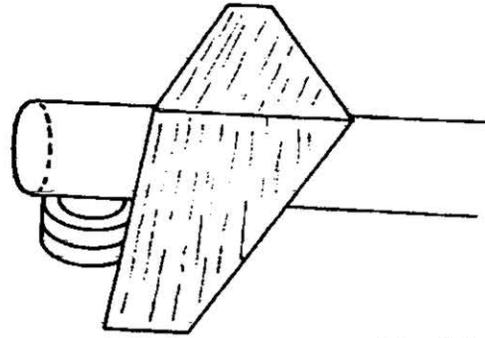

Fig. 25
**G** Without moving the Strike Vehicle, mark the Body 2.5 cm from its front. Spread glue in the center of the "V" of the Forward Stabilizer Assembly. Place the Stabilizer Assembly on the Main Body, just aft of the mark made above (Fig. 25). Sight along the tube to make sure that the Stabilizer Assembly is level and properly aligned. Allow to dry.